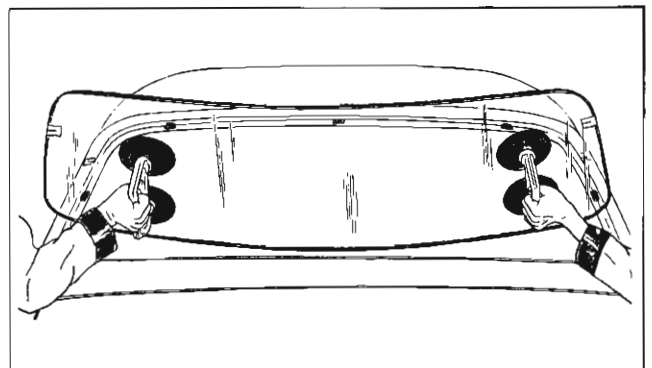

Fig. 14-8 Installing Window
19. With aid of a helper, carefully install glass in body opening (Figs. 14-8 and 14-7). Make certain that glass sets properly on all spacers and does not have to be shifted after caulking material contacts pinchweld flange.